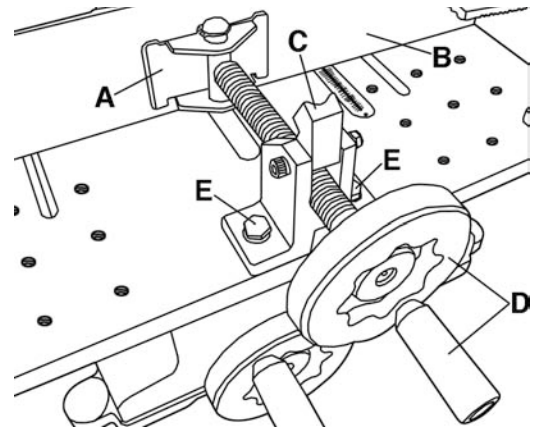

Figure 12
This mortiser comes with a quick release vise (A) Fig.12 which allows you to rapidly adjust and secure a workpiece against the fence (B).